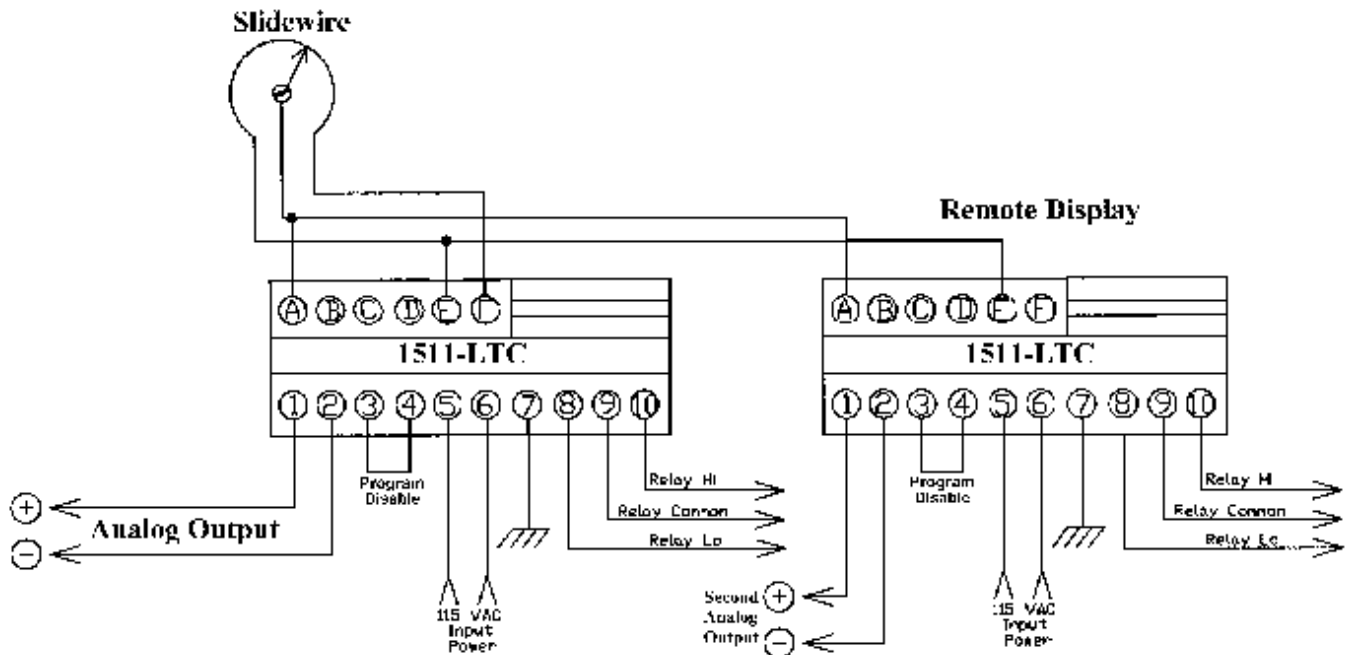
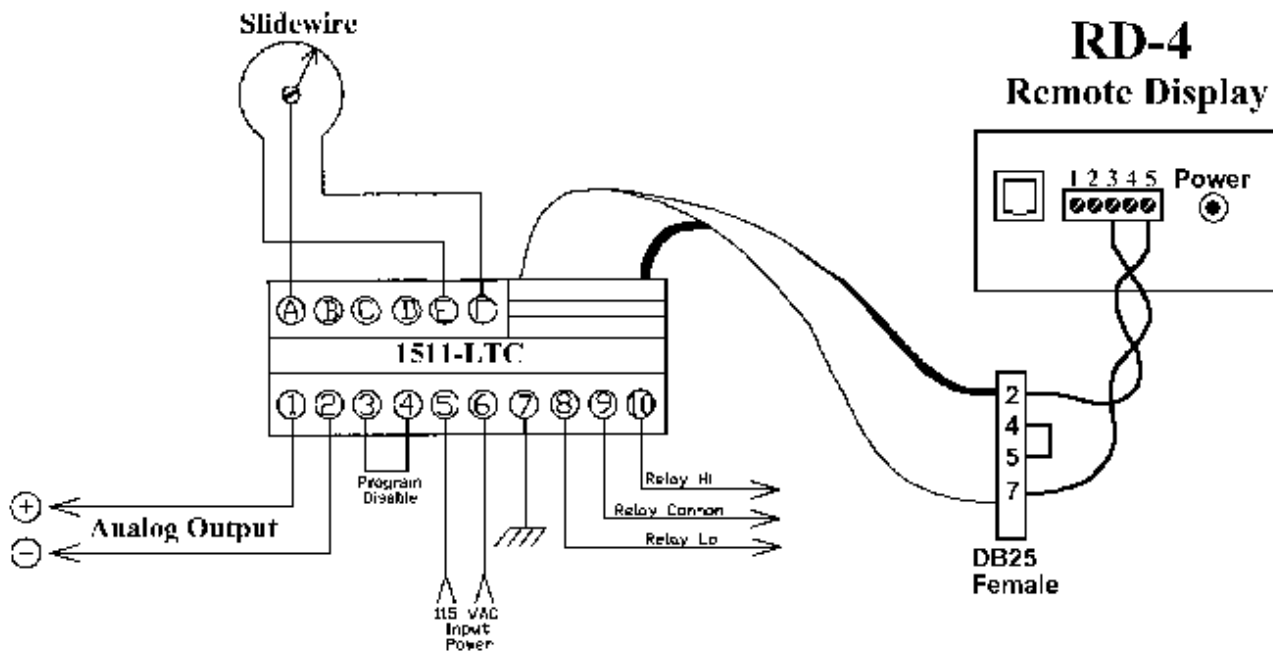

Figure 1.5 Field Wiring Diagram Multiple 1511-LTC's on One Transmitter
Figure 1.6 Field Wiring Diagram for 1511-LTC with RD-4
- 5) In cases where additional remote indication is needed, several 1511-LTCs may be wired in parallel to the same transmitter. (See Figure 1.5) or an RD-4 Remote Display can be used (figure 1.6).